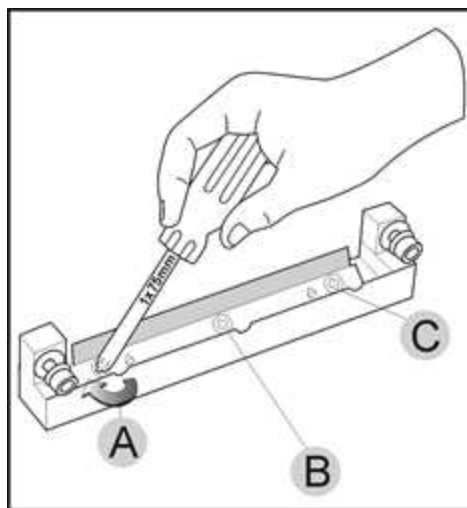

Figure 6-46 Tightening the roller scraper screws
- Tighten the screws in the order shown in Figure 6-46.